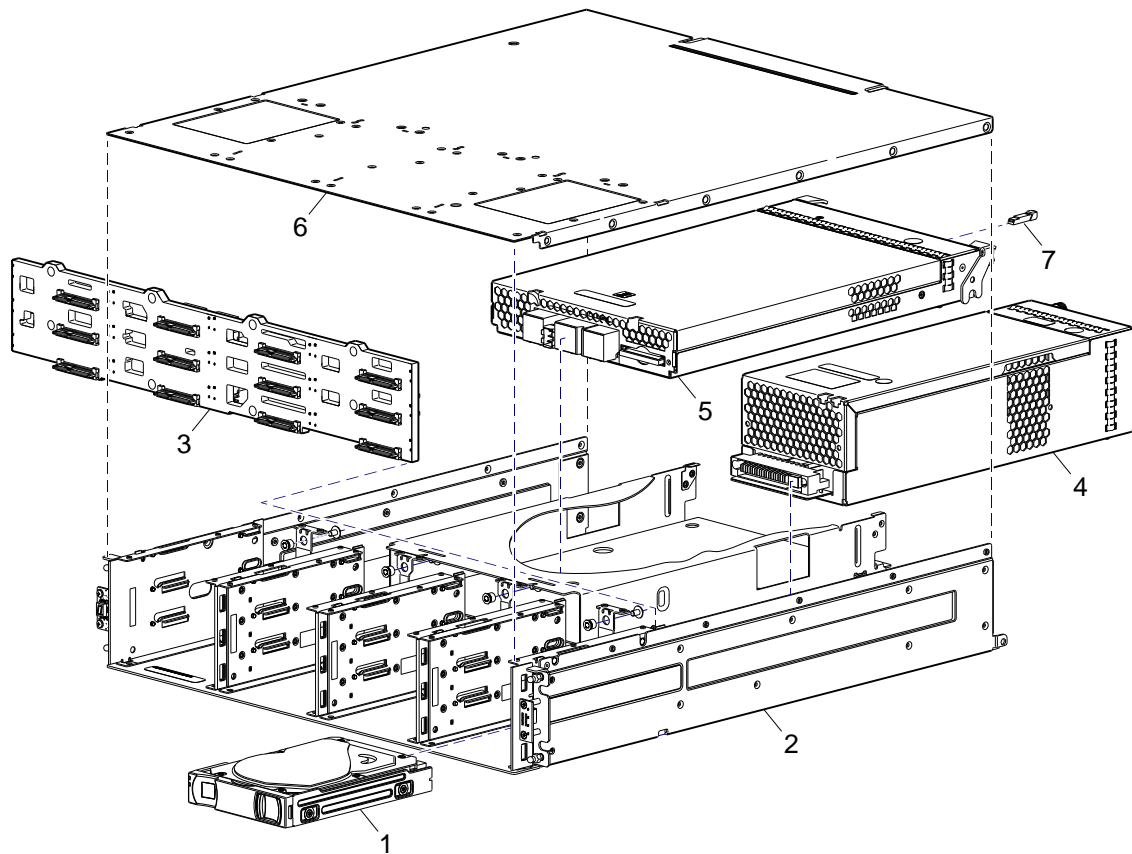

Figure 13 Controller enclosure exploded view (reduced-depth 2U12)
- Exploded view — Figure 13 on page 24